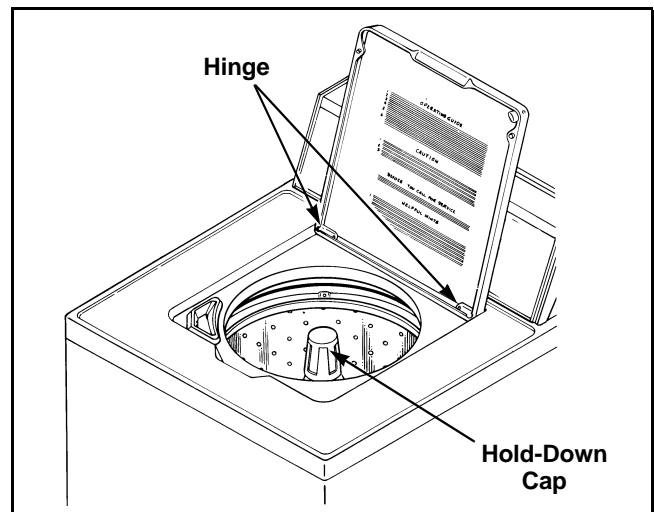

Figure 17
- a. Remove agitator hold-down cap and lift agitator out of washtub. Refer to *Figure 17*.